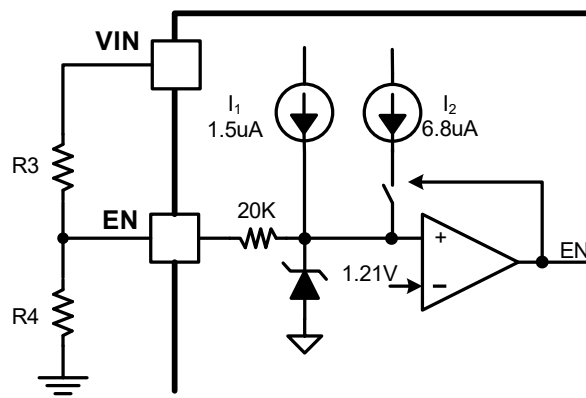

Figure 7. Adjustable VIN UVLO
An internal 1.5uA pull up current source connected from internal LDO power rail to EN pin guarantees that floating EN pin automatically enables the device. For the application requiring higher VIN UVLO voltage than the default setup, there is a 6.8uA hysteresis pull up current source on EN pin which configures the VIN UVLO voltage with an off-chip resistor divider R3 and R4, shown in Figure 7. The resistor divider R3 and R4 are calculated by equation (3) and (4).